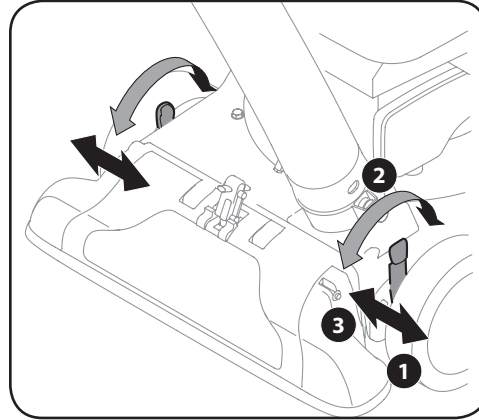

Figure 3-7
5. Depress nozzle height adjustment lever towards wheel. See Figure 3-7.
2. Release lever towards deck. See Figure 3-7.